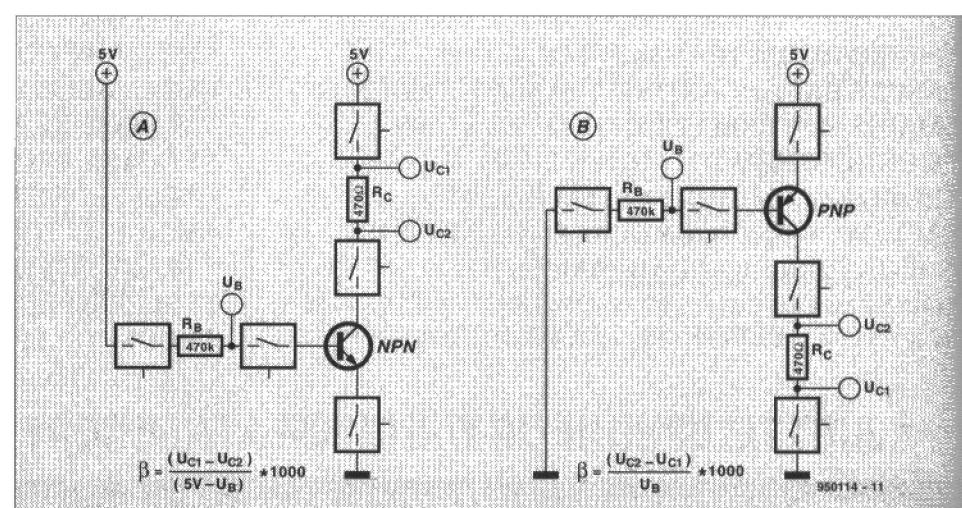

Fig. 1. Realistic values of base and emitter currents can be obtained only if a transistor is connected as shown
In order to identify the type of a transistor, a standard transistor circuit is connected to the test socket as shown in **Fig. 1**. In the case of an n-p-n transistor (A), this means that
In the circuits in **Fig. 1**, these currents fall within a certain range. Since the transistor can be inserted into the test socket in a variety of ways, six possible pinouts must be tried out: CEB; CBE; ECB; BCE; EBC; and BEC.